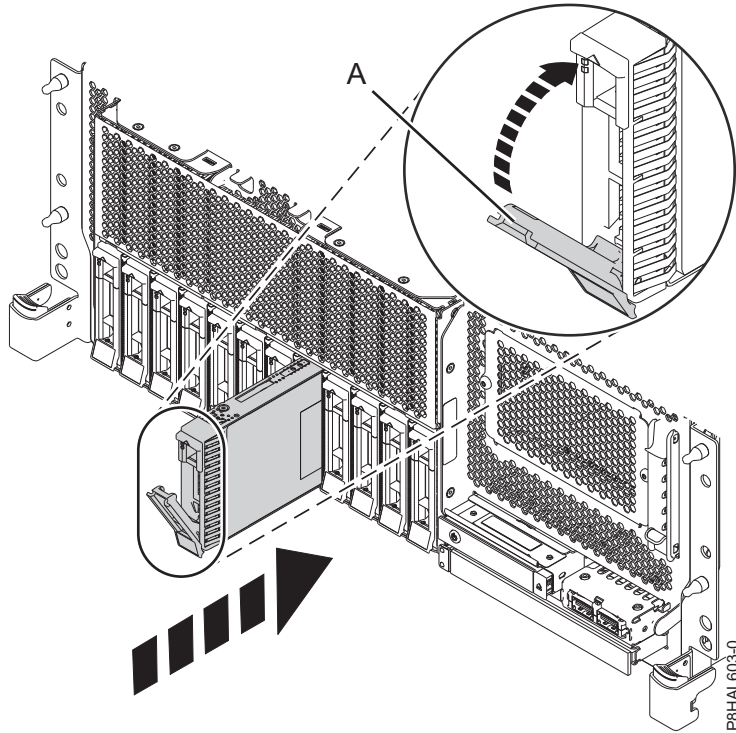

Figure 46. Installing a disk drive in a rack-mounted base function system
4. Unlock the drive bay handle (A) by pressing it and pulling it out toward you. If the handle is not all the way out, the drive does not slide into the system. See Figure 46 on page 51, Figure 47 on page 51, Figure 48 on page 52, and Figure 49 on page 53.
8. When the identify LED flashes for the selected slot, slide the drive all the way into the slot, and push the drive bay handle (A) in until it locks, as shown in Figure 46 on page 51, Figure 47 on page 51, Figure 48 on page 52, and Figure 49 on page 53.